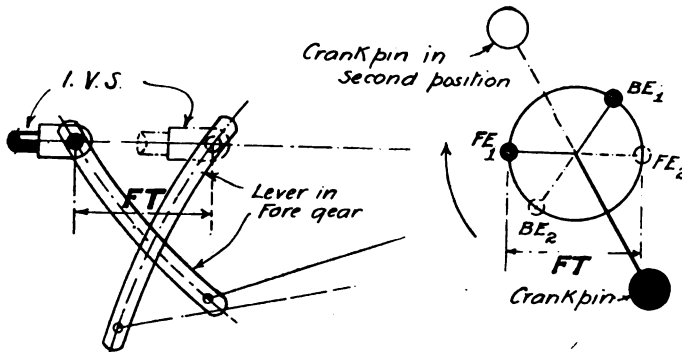

FIG. 2.—A MORE CORRECT METHOD. (FT is the full travel of the valve.)
We have no details to hand, but believe that some particulars which were published in the back issues of *The Engineer or Engineering* (about a year ago) would be of use to you. See also the *Engineer* for February 22nd last. (1) With regard to the method you have tried for finding the travel of the valve: this will not lead to accurate results. As we show in the accompanying Fig. 1, the movement of the reversing lever when the engine is stopped with the crank-pin on the bottom will not move the valve spindle to the full amount of its travel. The distance which the valve spindle will travel will vary according to the angle of advance of the eccentrics, and is represented in Fig. 1 by the measurement T. To obtain the correct travel, put the engine in such a position that either the forward or backward eccentric is at the extent of its travel with the lever placed in forward or backward gear, as the case may be. In Fig. 2 the forward eccentric is the one dealt with. The position of the other is immaterial so long as the gear is arranged in a symmetrical manner. The forward eccentric is then in position FE₁, and the lever in fore-gear. Having marked the valve spindle or intermediate valve spindle (I.V.S.), move the engine so that the forward eccentric is in exactly the opposite position (FE₂).
Again mark the valve spindle or I.V.S., and measure the distance between the two marks. This will, as indicated by FT in Fig. 2, give the travel of the valve almost exactly. The second sketch shows the two positions of the crank-pin and eccentrics. The particular arrangement of the eccentrics does not affect the rule